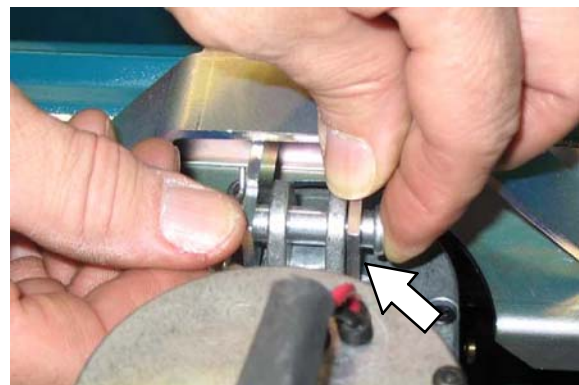

FIG. 3
3. Remove the top clevis pin that mounts the actuator bracket to the machine (Fig. 3). Set the mounting hardware aside.